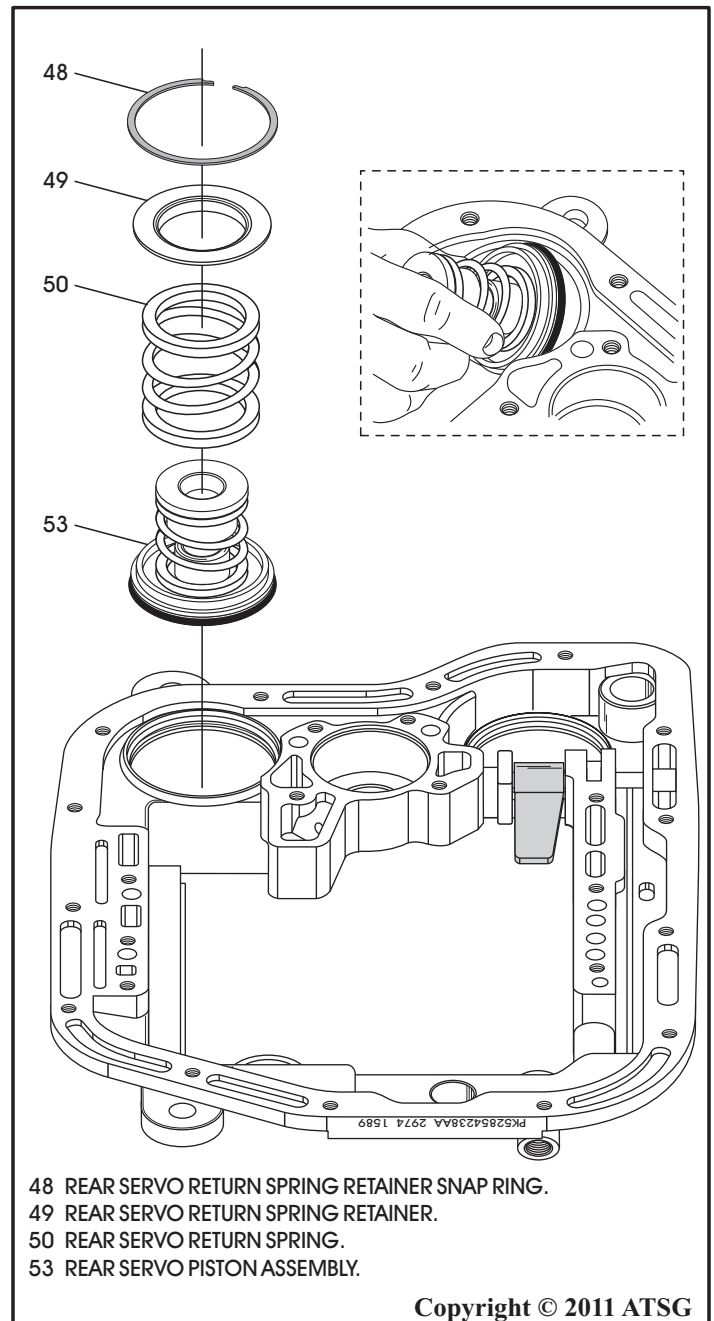

Figure 93
16. Install the rear servo piston in case, at a slight angle to bore and insert with twisting motion, as shown in Figure 93.
17. Install the rear servo return spring and the return spring retainer, as shown in Figure 93.
18. Compress the spring and retainer and install the snap ring, as shown in Figure 93.